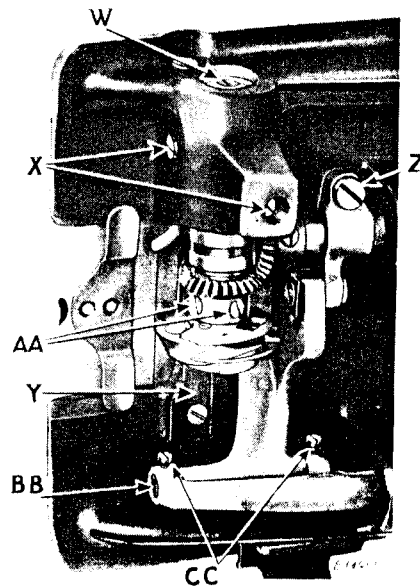

Fig. 21
The point of the hook should come as close as possible to the needle without touching it. Loosen the four screws (X and AA, Fig. 21) and slide the hook to the correct position, then tighten the two screws (X). Reset the gear on the hook shaft and tighten screws (AA).
Remove the bobbin case stop (Y, Fig. 21), loosen the hook spindle screw (W, Fig. 21) a few turns and tap it lightly to loosen the hook. Then remove the screw (W) and withdraw the hook from its socket.
Remove the throat plate; clean the lint and dirt from between the feed points and replace the throat plate; tip the machine back and turn the balance wheel toward you until the feed dog is at its highest position; loosen screw (Z, Fig. 21) and raise or lower the feed dog as required, then tighten the screw (Z).
Loosen the two screws (CC, Fig. 21) and turn the eccentric stud (BB, Fig. 21) to level the feed dog, then tighten the screws (CC).